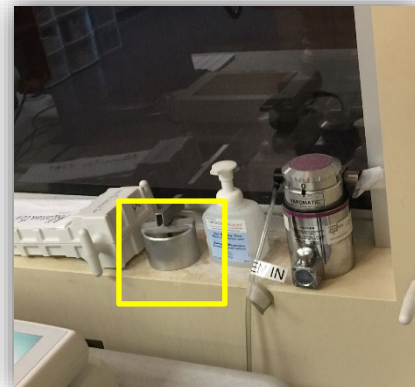

Figure 2.1 Emergency Release Tool
- The "Emergency Evacuation Release Tool" can be found on the windowsill in the console room as shown in Figure 2.1.